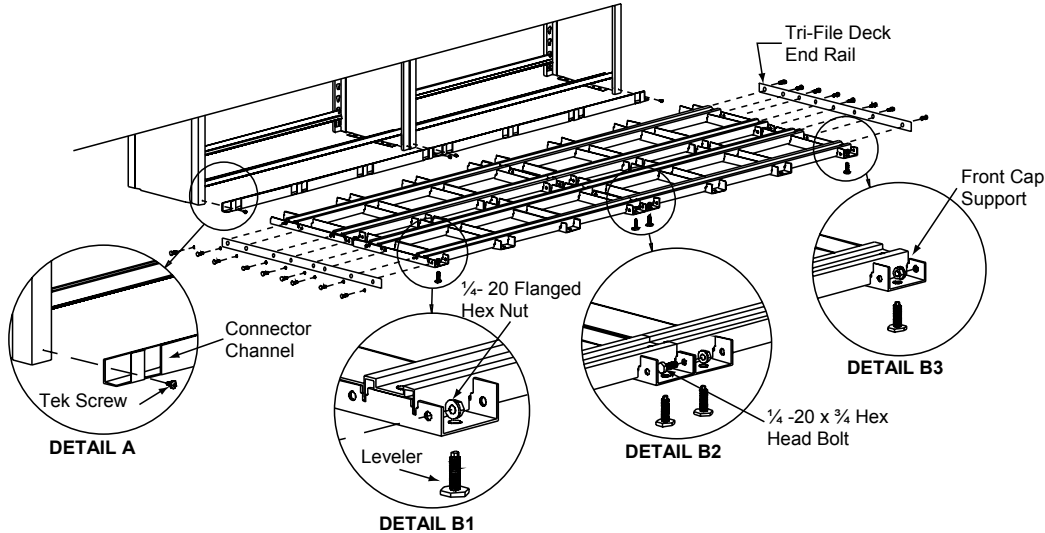

FIGURE 12
- STEP 1** Install Levelers in Deck sections making sure that each one is screwed in and is flush with the bottom of the Deck. **See Figure 12, Detail B1.**
- STEP 2** Position Connector Channels on the front bottom of each stationary base; make sure sides are flush with upright posts. Attach each Connector Channel to the post uprights on the stationary shelving using #10 x 1/2 Tek screws. **See Figure 12, Detail A.**
- STEP 3** Attach the assembled Deck section to the Connector Channels. The Deck assembly will have corresponding slots which will secure to the Connector Channel. **See Figure 12.**
- STEP 4** Join Decks together by using 1/4-20 x 3/4 hex head bolts and flange nuts. The number of fasteners will vary due to system size. The Deck sections will have corresponding holes for attaching side to side. **See Figure 12, Detail B2.**
- STEP 5** Position second row of Deck sections in front of first row. Join all Deck assemblies 1/4-20 x 3/4 hex head bolts and flange nuts. **See Figure 12.**
- STEP 7** Secure Tri-File Deck End Rails to both sides of the Deck assemblies by using eight (8) 1/4-20 x 3/4 hex head bolts and flange nuts. **See Figure 12.**